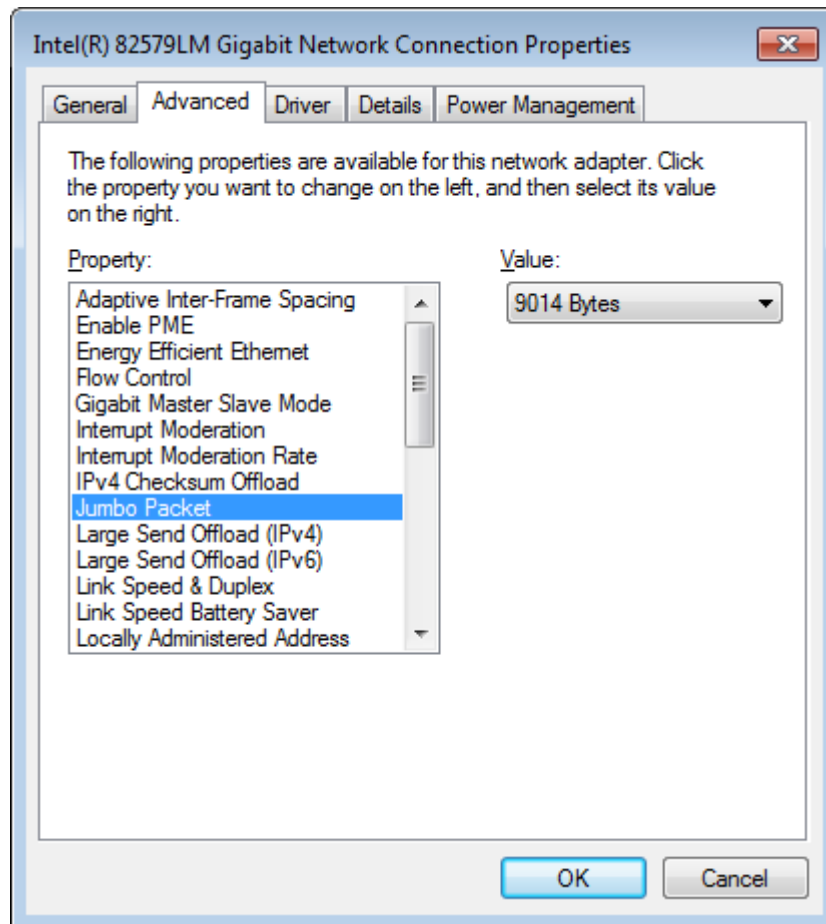

Figure 110: Network interface card - advanced driver settings - Jumbo Packets
4. The settings of the driver can be accessed by choosing the *Advanced* tab of the opened window. As shown in Figure 110, raise the value of the *Jumbo Packet* property to its maximum value.